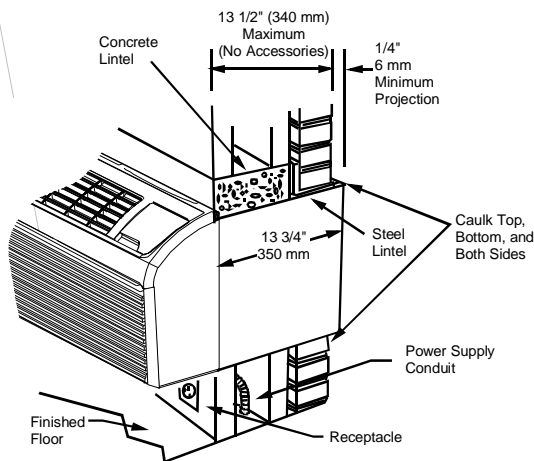

Figure 6 - Block and Brick Veneer Installation
- The installer must provide adequate sealing and insulation around the sleeve after it is installed. See Figure 6 for one of many types of constructions.